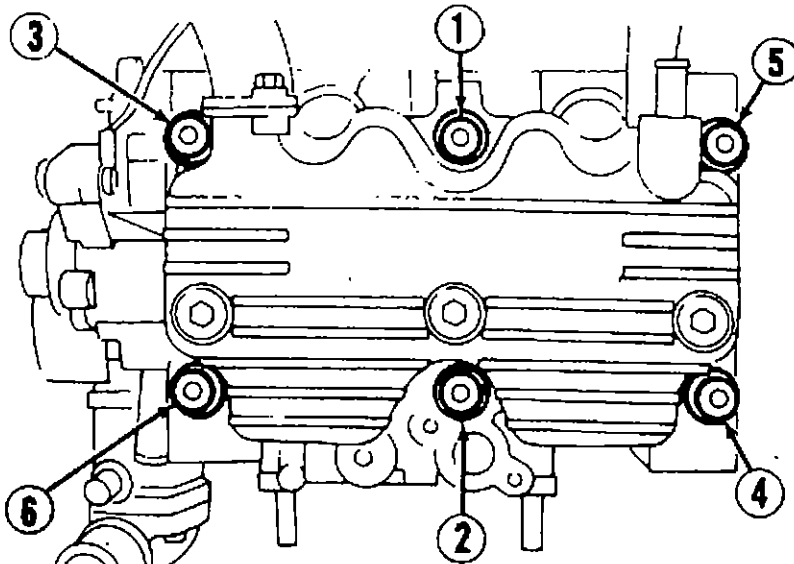

Fig. 1: Cylinder Head Bolt Tightening Sequence
Drain coolant. Remove timing belts and camshaft sprocket. See TIMING BELT. Remove intake manifold and exhaust pipe. Remove cylinder head bolts in reverse order of tightening sequence. See Fig. 1. Remove cylinder head and gasket.
1) Ensure mating surfaces are clean and dry. Install head gasket. Coat head bolt threads with oil. Tighten bolts to specification using proper sequence. See Fig. 1. See TORQUE SPECIFICATIONS table at end of article.